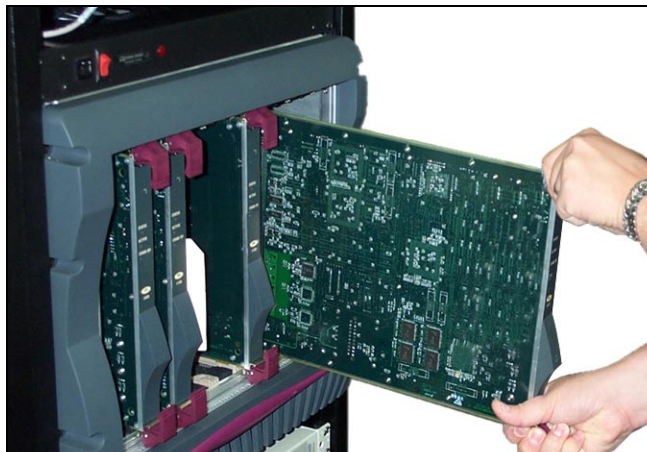

Figure 5-2. Base Station Card Positioning
1. Position and slide the interface card into the slot until it is seated (See Figure 5-2).